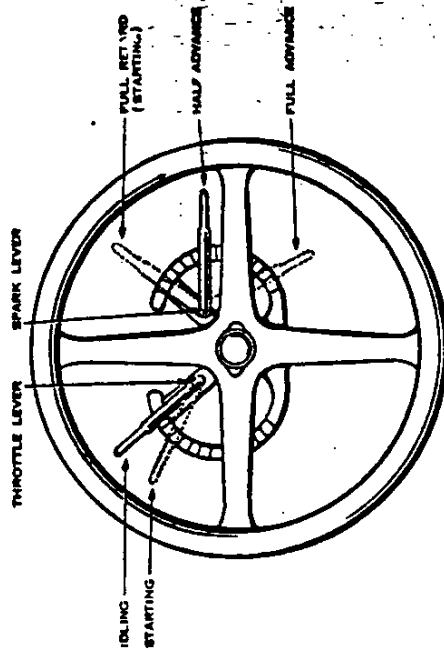

Fig. 2—Positions of spark and throttle levers.
First, ADVANCE THE SPARK AND THROTTLE LEVERS to the position indicated in Fig. 2. The motor speed will be increased.
Second, that the spark and throttle levers are in the proper positions for starting. (Fig. 2)
Be absolutely sure that the spark lever is properly retarded, as shown. (Fig. 2) Failure to observe this may cause serious damage to the starting equipment or break the teeth from the fly wheel and subject you to unnecessary trouble and expense.
It is not a good thing to let the motor "race" idle (run at considerable speed). Therefore, you should now "retard" the THROTTLE LEVER, (Fig. 2) thereby cutting down the gas supply. AT THE SAME TIME ADVANCE THE SPARK LEVER until both have the position indicated in Fig. 2.
When the car is being operated at a speed greater than fifteen (15) miles an hour, the spark lever should be advanced to the fullest extent. This brings the spark in the cylinder at the proper time to ignite the charge when it will be most effective. (Fig. 2) This places the spark in the cylinders a trifle in advance of the time when the piston reaches the top of the compression stroke, but it is necessary, as there is a certain lapse of time after the spark crosses the point of the plug before the gas is fully ignited. The full amount of the pressure is then brought to bear on the piston as it is ready to start on the downward or power stroke. By operating the spark in the retarded position, when the car is traveling along at high speed, the motor runs hot as the late explosion develops considerably more heat.